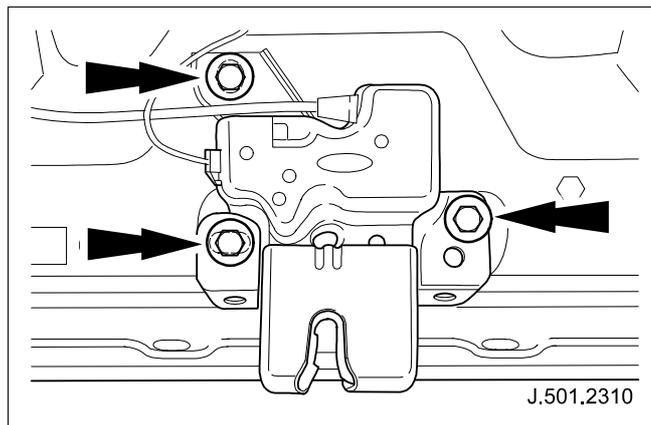

Fig. 1
- 3 Slacken luggage compartment latch securing screws to allow adjustment of luggage compartment latch. (See Fig. 1)